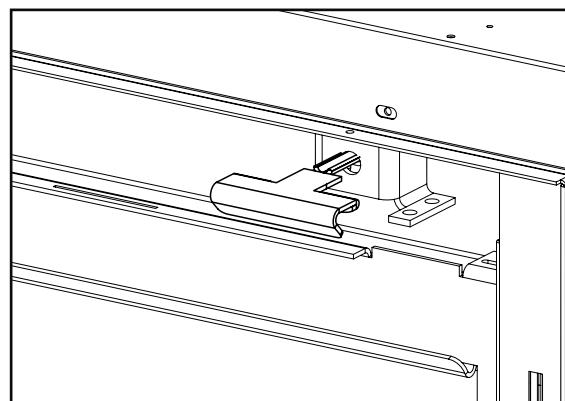

Fig. 3
**Fig. 3:** If installed with the blue wire facing up, flipping the switch UP turns on the continuous pilot with timer and flipping the switch DOWN turns on the intermittent pilot ignition. If installed with the white wire facing up, the opposite is true.
**(Fig. 3)**
Leave a hand on the glass door during entire door removal. The glass door is secured to the firebox with 4 spring latches (**Fig. 3**).